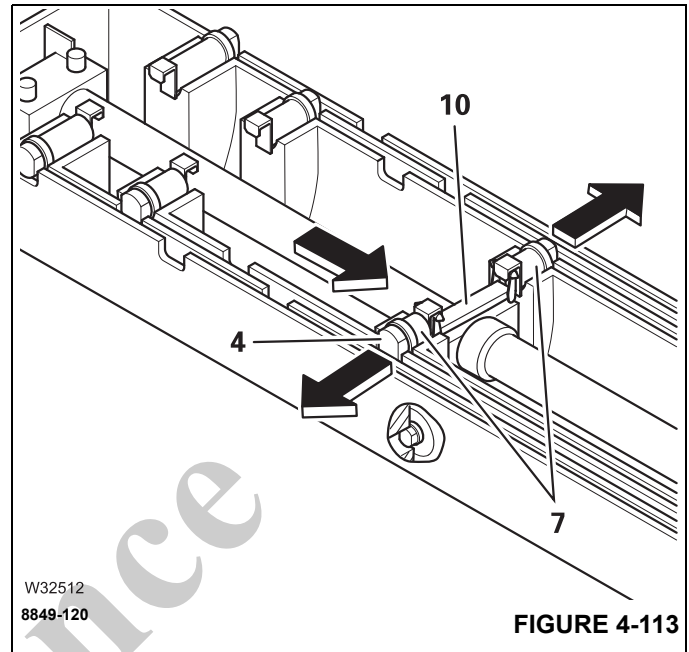

FIGURE 4-113
The weight is taken off the mechanism (10), (Figure 4-113). The locking pins (7) extend into the cutouts (4).